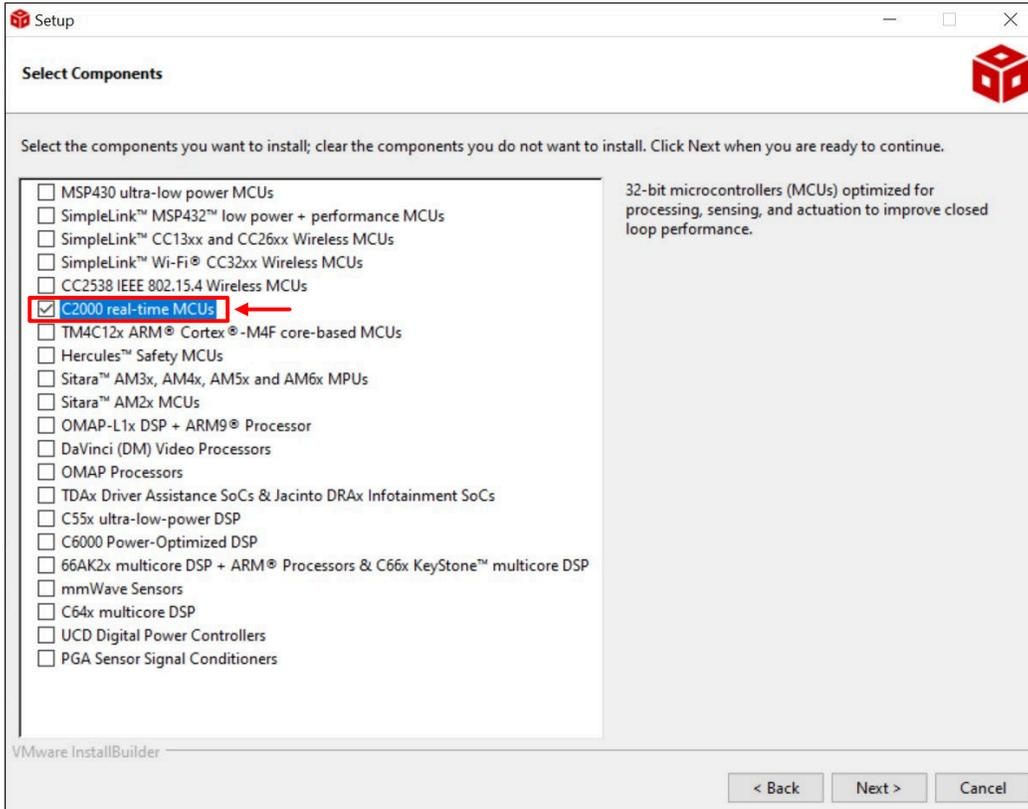

Figure 2-1. Installation Process of Code Composer Studio
- b. Follow the installation instructions to install Code Composer Studio. During the installation process, if you choose the "Setup type" to be "Custom Installation", make sure that you select "C2000 real-time MCUs" in "Select Components", as is marked with red box in Figure 2-1.